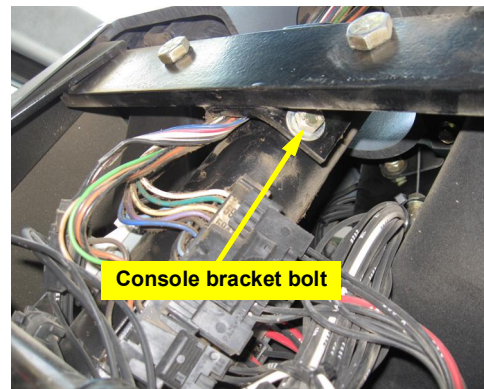

Figure 1c: Steering console bracket bolt
- c. Remove the lower steering console bracket bolt (Figure 1c).